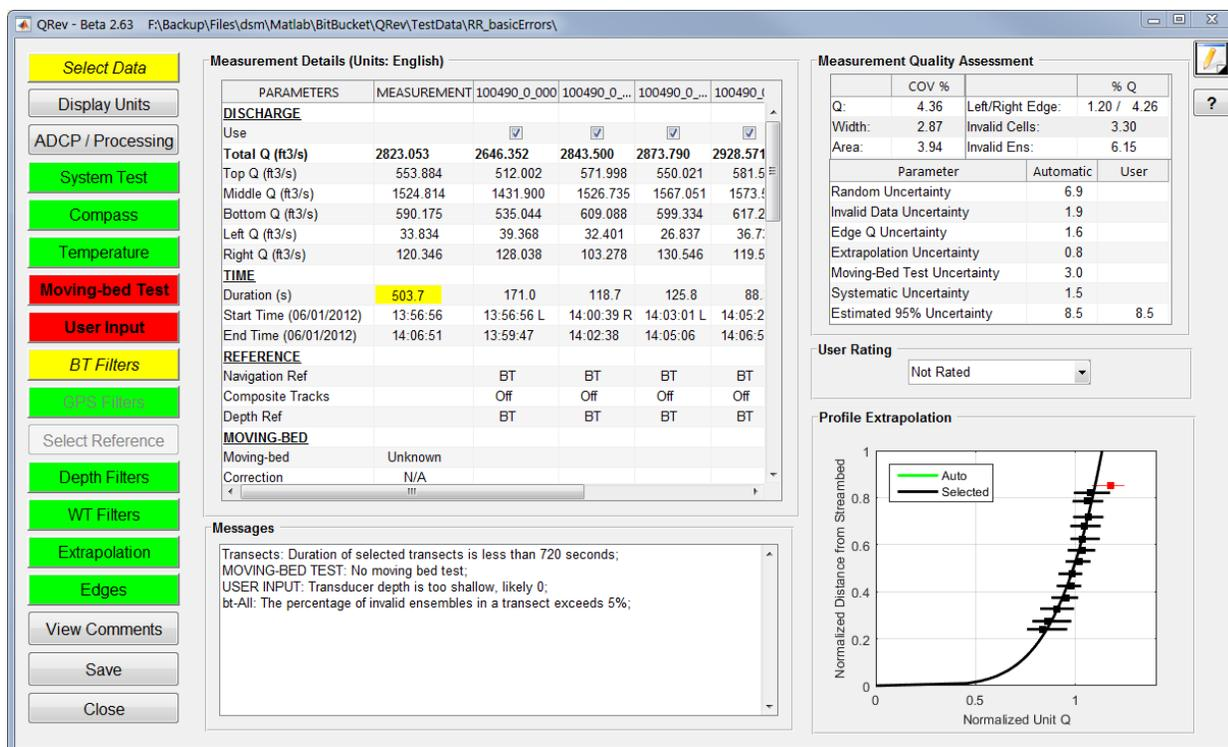
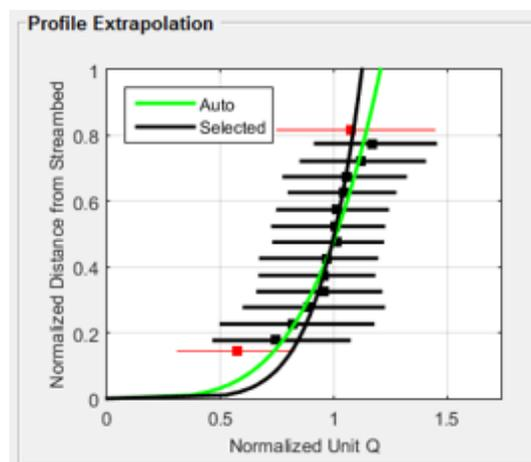
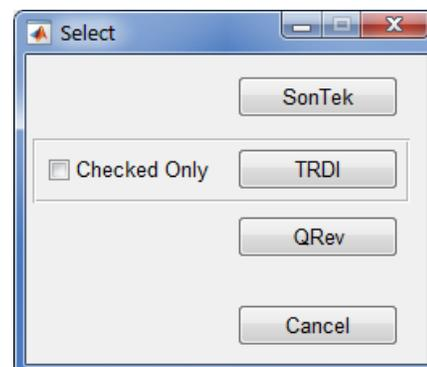
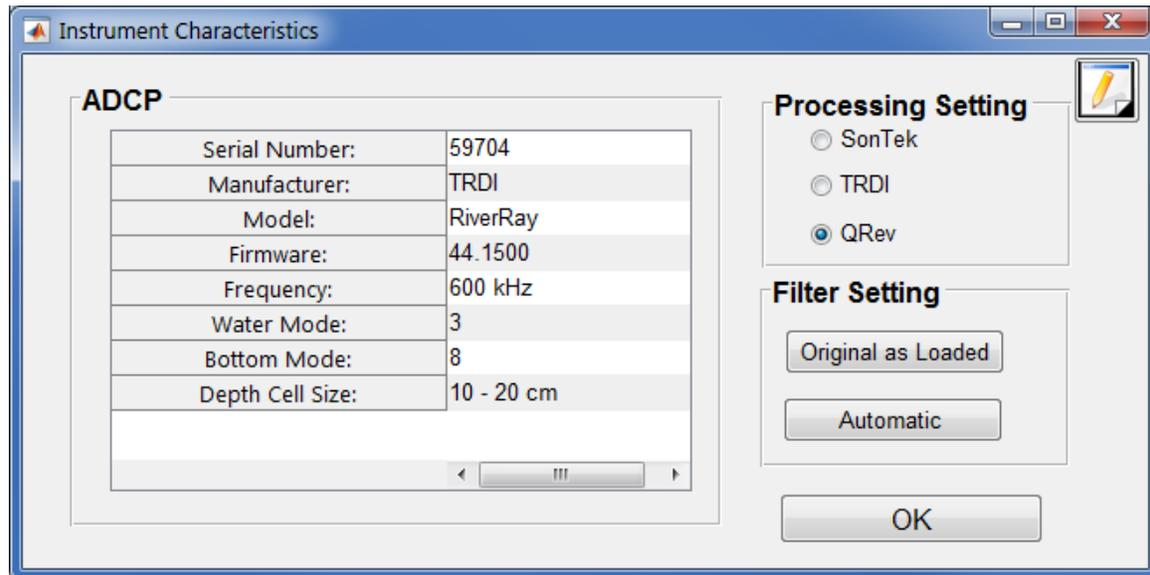

Figure 1. QRev main window.
Figure 4. Example profile extrapolation showing a selected extrapolation method different from the automatically selected method.
Figure 5. Select data window.
Figure 8. ADCP/Processing dialog window
The GUI, shown in figure 1, is designed to be logical and tablet friendly. To load and review data, the user works from top to bottom along the buttons on the left. This approach leads the user through the premeasurement steps first. Navigation reference, depth, and water data are needed to compute discharge. By working top to bottom the best navigation data are obtained, then the best depth data, and finally the best water data, which are dependent on the navigation reference and depth. Thus, the final discharge is based on the best available data.
The buttons on the left (fig. 1) will turn green, yellow, or red based on the automated data quality assessment (ADQA). If a button is yellow or red, an associated message will be in the message box at the bottom of the main window. Buttons, check boxes, radio buttons, and pop-up menus are used
The QRev main window (fig. 1) has six sections: (1) buttons down the left side, (2) Measurement Details panel, (3) Messages panel, (4) Measurement Quality Assessment panel, (5) User Rating panel, and (6) Profile Extrapolation panel. The information available from this main window provides the user an overview of the measurement quality and totals. The color highlighting and messages alert the user to any potential issues detected by the ADQA. Other modal windows to explore the data or change the processing settings are accessed from this main window using the buttons on the left.
The buttons on the left (fig. 1) are arranged from top to bottom to lead the user through the steps of loading, reviewing, and finalizing a measurement. The buttons will display in one of four ways depending on the results of the ADQA.
The Measurement Details panel (fig. 1) provides a table of the measurement results and configuration settings. The units system used for the measurement is shown in the panel label and with each row label that has units associated with it. A scroll bar on the right allows the user to scroll up and down through the table. Depending on the number of transects in the measurement there may be an additional scroll bar at the bottom to allow the user to scroll left and right. Clicking in the table will allow navigation of the table with the arrow keys. The width of the columns can be changed by placing the cursor in the column labels and dragging the column divider.
The Messages panel displays messages reported by the ADQA (fig. 1). Each message has an initial identifier followed by a colon. Messages with an identifier that is in all uppercase are warning messages and will be associated with a red button. Messages with an identifier that has lowercase letters are caution messages and will be associated with a yellow button. The scroll bar on the right allows the user to scroll through messages if the messages exceed the panel size. The arrow keys cannot be used to scroll through the messages text box.
The Measurement Quality Assessment panel (fig. 1) consists of three tables with information to assist the user in rating the quality and uncertainty of the measurement. The table in the upper left provides the coefficient of variation in percent (COV %) for the total discharge, the cross-section width, and the cross-sectional area. The table in the upper right provides the percentage of total discharge (% Q) in the left and right edges (Left/Right Edge), in invalid cells (Invalid Cells), and in invalid ensembles (Invalid Ens.). Cells in the tables may be colored based on the results of the ADQA.
The table at the bottom of the panel has two columns for the uncertainty of the various aspects of the measurement (fig. 1). The column labeled “Automatic” contains the values generated by QRev based on assumptions and computations defined in Mueller (in review) and briefly in the following paragraphs. Because the assumptions and computations used to generate the values in the “Automatic” column are simplistic, the values may not accurately represent the uncertainty for all conditions. The column labeled “User” allows the user to override the automatic values with a user supplied value. A value entered by a user should be supported with a comment. The total estimated 95 percent uncertainty value will be recomputed each time a new “user” value is input. The uncertainty categories are defined as follows.
The User Rating panel (fig. 1) provides a popup menu to allow the user to rate the measurement. QRev does not automatically rate the measurement. The user should consider the information provided in the Measurement Quality Assessment panel (especially the uncertainty estimate), the quality of the stage measurement, and any other factors that might affect the overall quality of the measurement when selecting the final rating.
The Profile Extrapolation panel (fig. 1) contains a graph of the normalized depth and discharge for the entire measurement (check transects only). The data are represented by median values of normalized Q at the mean normalized depth for all data within 5 percent increments of normalized depth. The whiskers on the data points show the range of 50 percent of the data in that median. The selected extrapolation methods are shown with a black line, and the extrapolation methods based on the automatic methods in QRev are shown with a wider green line (fig. 4). QRev defaults to the extrapolation methods based on the automatic selection algorithms; however, the user can choose to override that automatic selection.
The Select Data button (fig. 1) is used to load data into QRev. Clicking the Select Data button opens the dialog shown in figure 5. QRev can load data from
For TRDI ADCPs, select the *.mmt file in the Open File dialog and the transects and supporting data will be loaded. To only load the transects that have been checked in WR2, first click the “Checked Only” box and then click on TRDI (fig. 5).
The Select Data button (fig. 1) may be colored based on the following ADQA checks.
The Display Units button (fig. 1) opens a window that allows the user to select the desired units (English or International System of Units [SI]; fig. 7). This selection can be made at any time. This setting only affects the display of the data and does not have to be consistent with the original units of the loaded data. All data in QRev are stored internally in SI units.
The ADCP/Processing button (fig. 1) will open a dialog window that shows information about the ADCP (fig. 8). ADCPs with auto-adaptive water and bottom modes and frequencies may display “Variable” or a range of values representative of the data collected. If the information is not available in the data loaded, the value will be left blank.
The Processing Setting panel allows the user to change the processing algorithms and global filter settings used to compute discharge (fig. 8). The Processing Setting defaults to QRev and the filter setting defaults to Automatic for all data types. The Automatic filter setting turns most of the filters in QRev to an Auto setting, meaning these filters will be applied to the data using preset values or preset dynamic algorithms. The extrapolation is also set to the automatically selected methods. The navigation reference is set to whatever reference was set in the loaded data.
The user can switch the processing type among SonTek, TRDI, or QRev (fig. 8). Switching the processing type changes the way invalid data are interpolated and handled. The user can also change the filter settings to the filter settings used in the original data (Original as Loaded). If a filter is not supported by the manufacturer and does not have a setting, that filter is turned off. For QREV to process the data like RSL, the user would select SonTek, wait until QRev finishes processing that request, and then click on Original as Loaded. This combination will process the data similarly to RSL. Likewise, to process data like WR2, the user would select TRDI and then click on Original as Loaded. The user can use the Automatic button to turn all filters to Automatic if changes have been made using other windows in QRev.